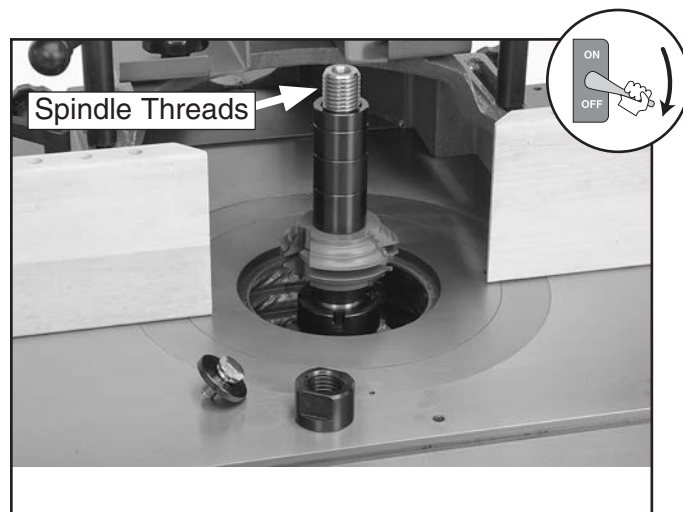

Figure 28. Example of cutter and spacers mounted on the spindle.
7. Place the cutter and spacers onto the spindle so that the last spacer is slightly above the bottom spindle thread (see **Figure 28**).